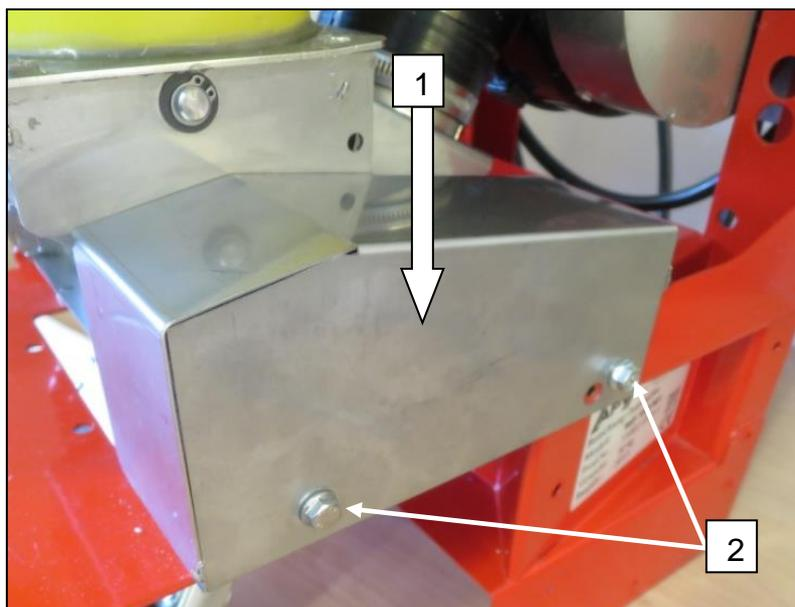

Fig.: 136
- To install the seeding shaft motor cover, insert it from top to bottom **1** over the seeding shaft motor and fix it with the existing bolts **2** (Fig.: 136).